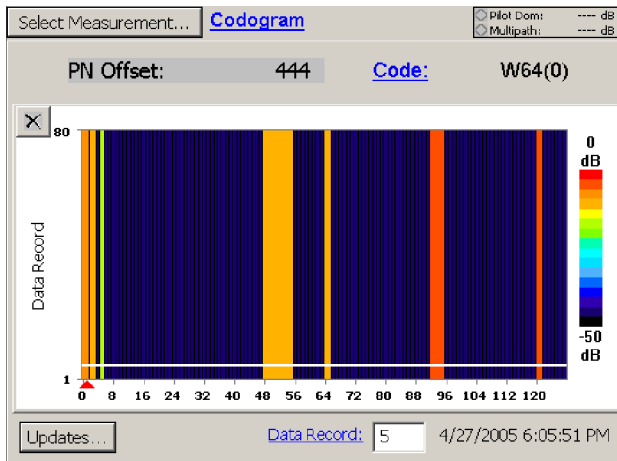

Figure 3-58: cdma2000 Codogram display
4. Tap **Codogram**. See Figure 3-58.